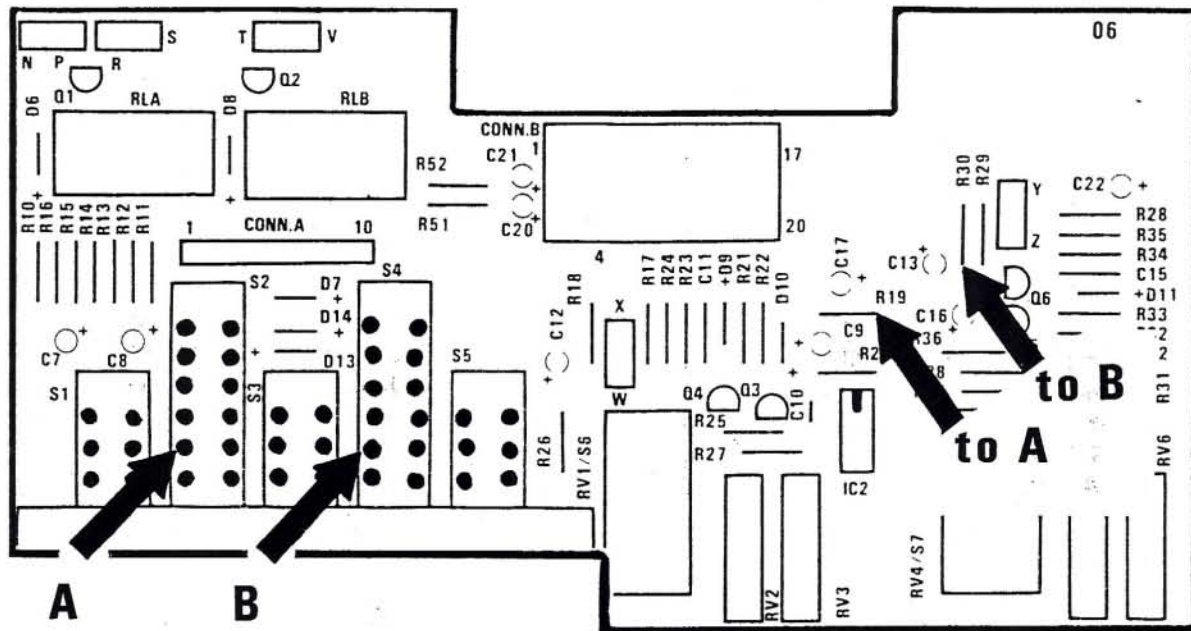

Fig. 3 - check points
- 9) The modification can be checked, as shown in fig.3, by measuring the resistance between 1) point 'A' and the grounded end of R19, and 2) between point 'B' and the grounded end of R30. Both resistance measurements should read "open circuit" with the noise reduction modules removed from the chassis.